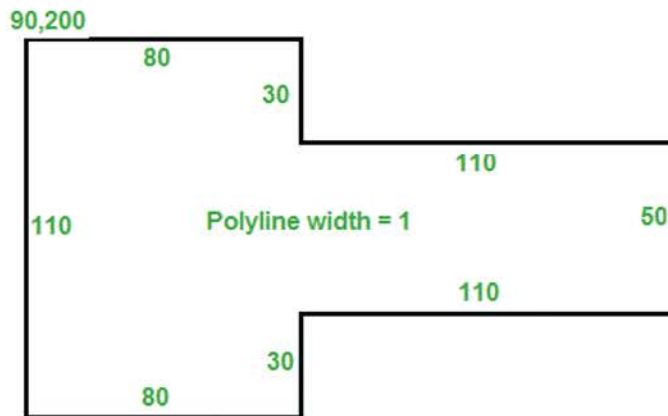

Fig. 2.22 Exercise 1
1. Construct the polyline outline given in Fig. 2.22.